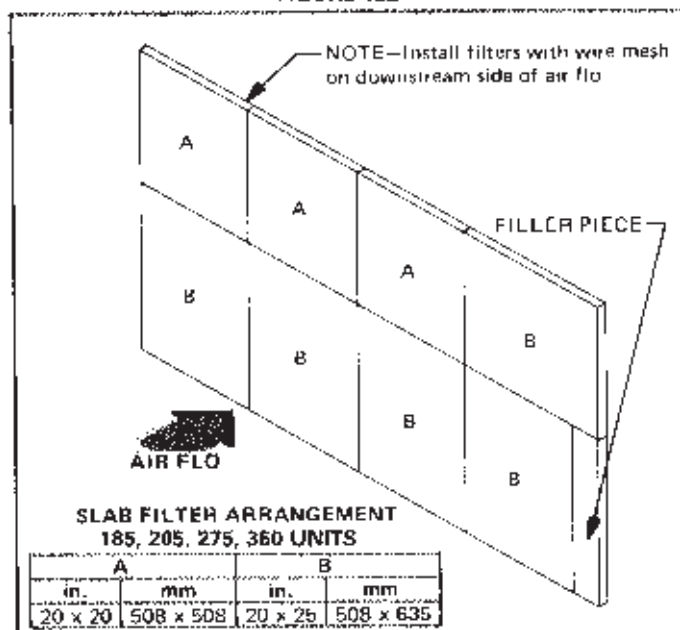
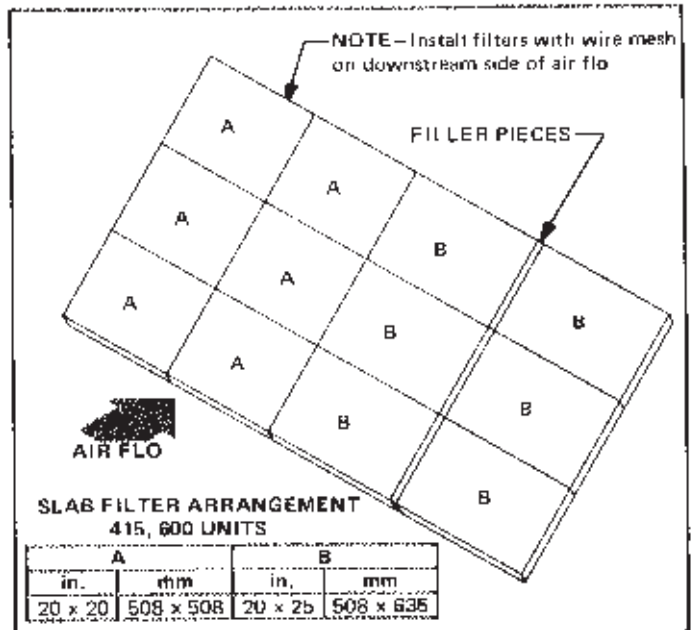

FIGURE 123
FIGURE 124
- 3 - Replace filters in unit noting arrangement and air flow direction. Refer to Figure 123 (185, 275, 300, 360) or Figure 124 (415, 600). Slide filters in on track, pulling chain and bracket in place.